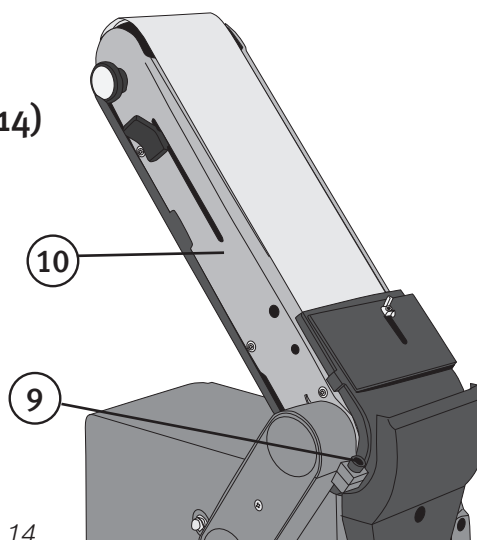

fig. 14
3.7 Using the sanding belt at different angles (fig. 14)